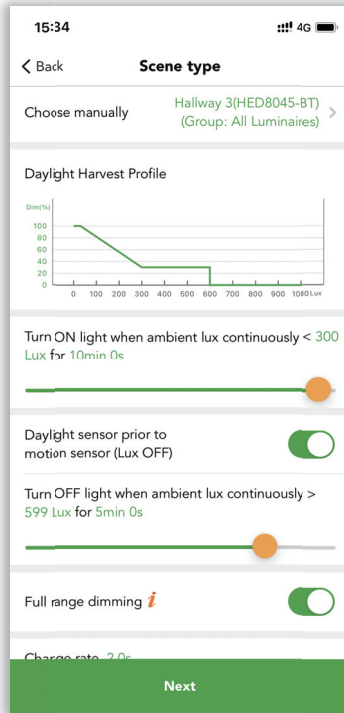
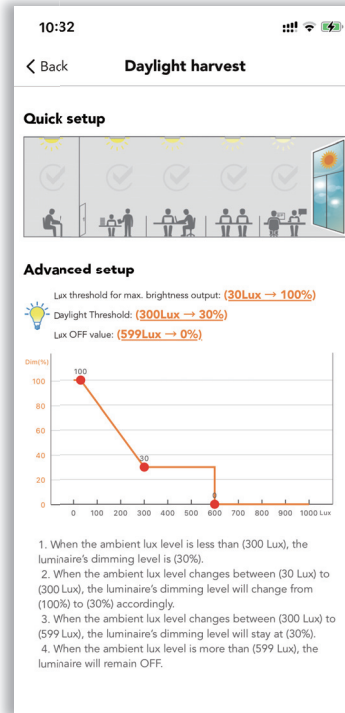

Figure 6.11 Scene setting
Figure 6.12 Scene setting
- Step 1. Create a daylight harvest scene (open loop). The scene setting see figure 6.11, figure 6.12. Do not need to create a 10% brightness generic scene. We have a default one in the scene tab.